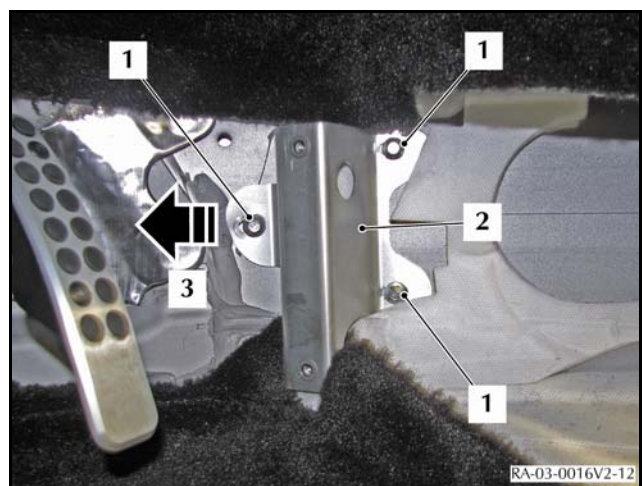

Figure 12
- 27. Loosen, but do not remove the three screws (1) that attach the bracket for the scuff plate (2) to the body (refer to Figure 12).
- 28. Move the bracket (2) fully towards the front of the vehicle (3).
- 29. Tighten the three screws (1) that attach the bracket (2).